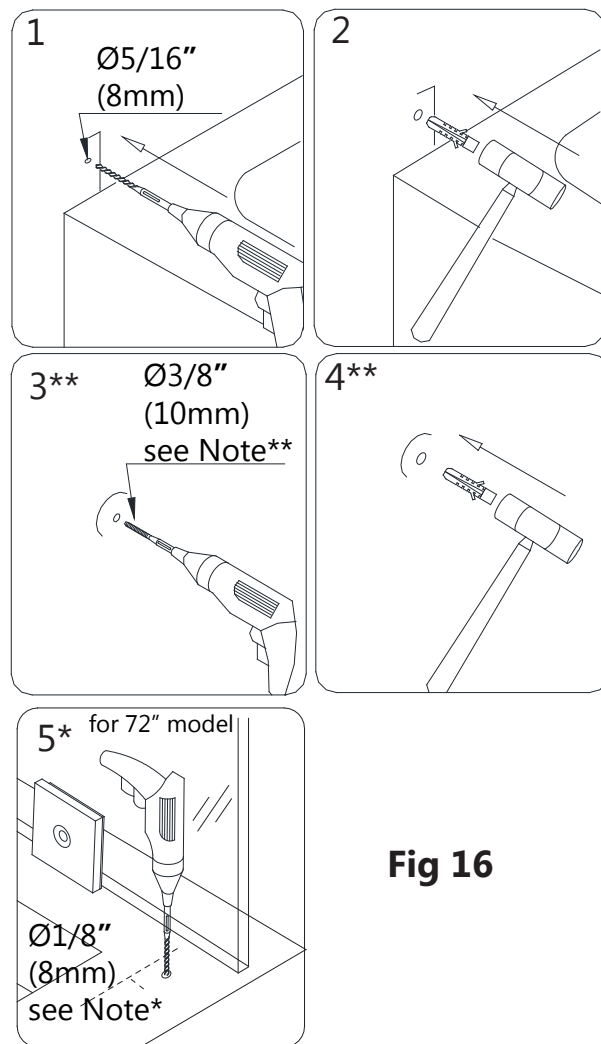

Fig 16
****For the recommended installation into a stud, drill a Ø1/4" hole up to the stud, do not use wall anchors, and let the screw bore into the wood.** (**Fig 16**)